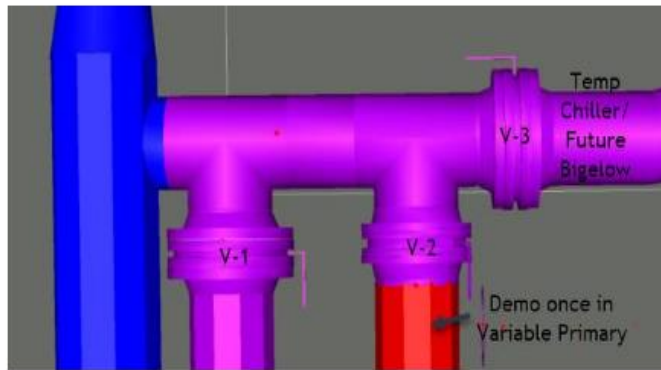

Figure 2: Jumper for variable primary conversion along with valves V-1, V-2 and V-3
- Shutdown plant for 2-3 days and install "jumper" butterfly valve, tee/valve for secondary pump suction and butterfly valve for future Bigelow distribution/temporary chiller (See Figure 2 below)